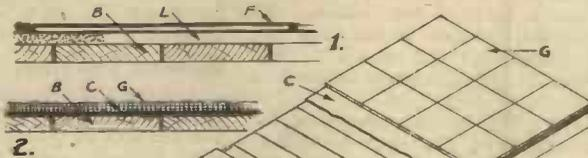
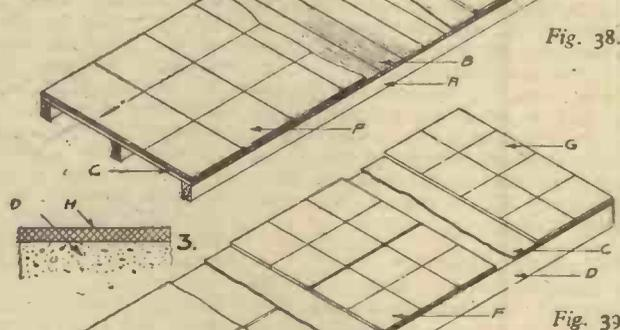
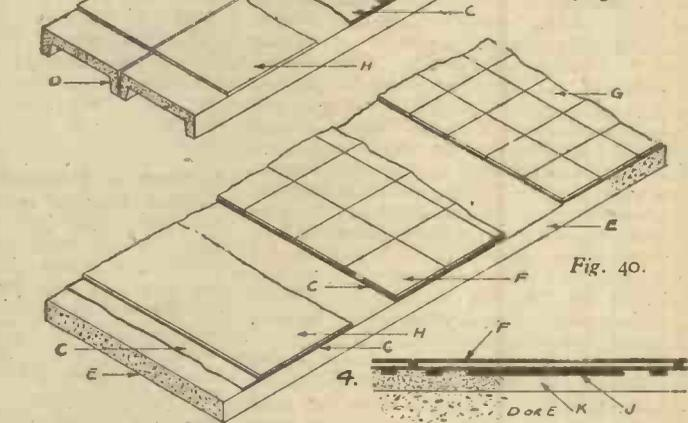

Fig. 38.
Fig. 39.
Fig. 40.
Fig. 38.—Pre-built timber-framed floor unit with rubber on asbestos-cement and cork floorings. Fig. 39.—Pre-cast concrete units with coloured asphalt, rubber on asbestos-cement and cork floorings. Fig. 40.—Cast-in-situ concrete floor with various types of floorings. 1—Detail of rubber on asbestos-cement floorings on wood sub-flooring. 2—Detail of cork flooring on wood sub-flooring. 3—Coloured asphalt flooring direct on pre-cast concrete units. 4—Detail of rubber on asbestos-cement floorings on concrete sub-floor.
**Coloured Asphalt Floorings (on concrete)** are similar to those last described, but are laid as follows: For cast-in-situ concrete floors, a felt underlay between the concrete and asphalt is necessary so that any cracking or movement in the concrete will not cause damage or cracks in the asphalt. See Fig. 40. For pre-cast concrete units, as Fig. 39, no felt underlay is necessary as these types of units may usually be relied upon not to crack or affect the asphalt which is firmly keyed to the fairly rough surface of the concrete.
These floorings consist of tiles having an asbestos-cement core with the exposed surface covered with rubber of any one or mixture of a wide range of colours. The tiles are rigid and may be laid on a wood sub-flooring as Fig. 38, or on a concrete sub-floor as Figs. 39 and 40. When laid on wood, tiles with plain under-surfaces are used, but when to be used on concrete the under-surfaces are keyed as shown by the details. A wood sub-flooring must be firm, level and painted with a red lead priming, and the tiles are fixed with a mastic compound. Concrete floors must be dry, and if very uneven in level or surface they should be corrected by screeding with cement and sand; the tiles are bedded down to a special compound about ¾in. thick. The tiles are made in such sizes as 12in., 9in. and 6in. square.
variety of sizes, and may be laid on wood or concrete. Wood sub-flooring should be dry, firm and perfectly even. Concrete sub-floors should be screeded, and if in contact with earth the screeding should be waterproofed or otherwise the floor made damp-resisting. A felt underlay is laid on wood sub-flooring, and the tiles are fixed by invisible nailing. A special mastic is used for bedding the tiles down to the screeding on the concrete, see Figs. 38, 39 and 40.